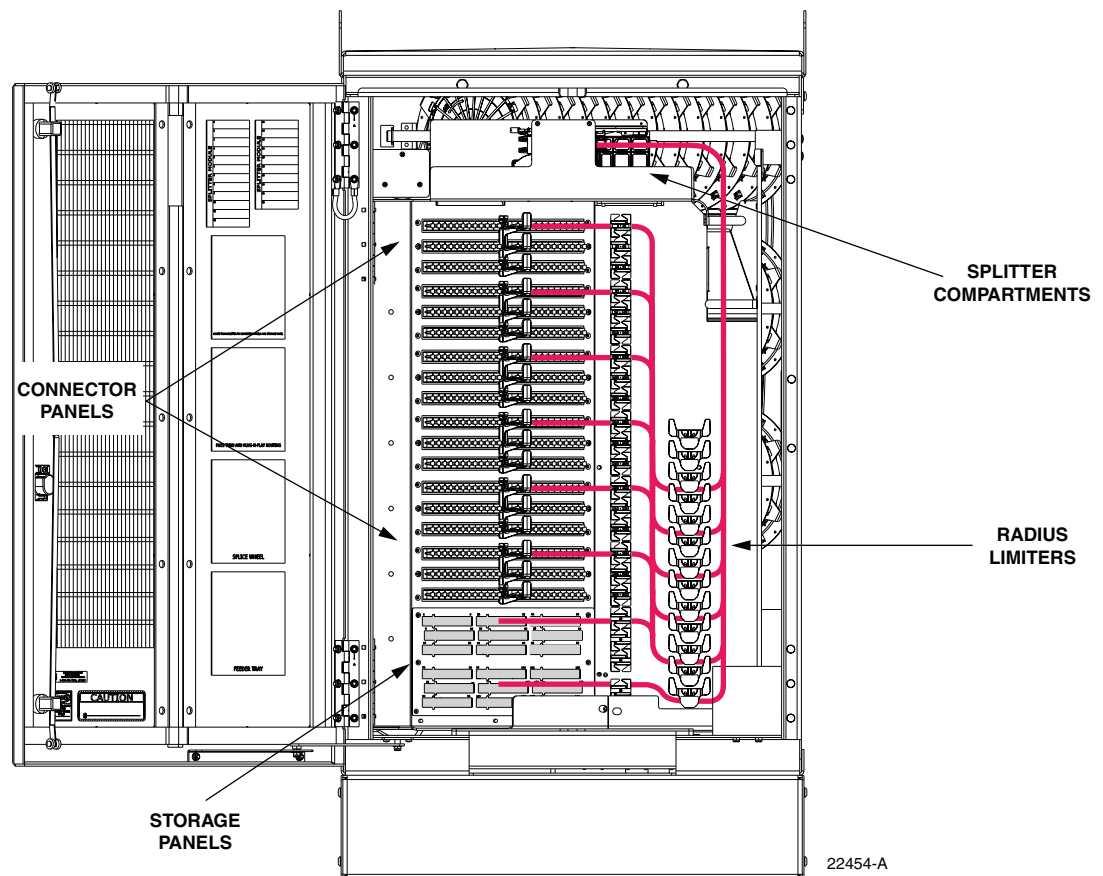

Figure 43. Routing Splitter Output Fibers
3. Use the radius limiters on the right side of the cabinet to store any excess fiber slack. Refer to Figure 43 for the routing guidelines.
6. Use the radius limiters on the right side of the cabinet to store any excess fiber slack. Refer to Figure 43 for the routing guidelines